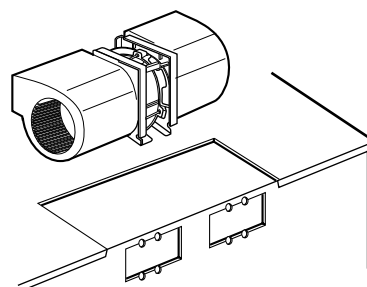

Figure 18
- (1) When mounting the door assembly to the oven assembly, be sure to adjust the door assembly parallel to the chassis. Also adjust so the door has no play between the inner door surface and oven frame assembly. If the door assembly is not mounted properly, microwaves may leak from the clearance between the door and the oven.
- (3) Carefully pull the ventilation motor ASS'Y out of the microwave oven. (See Figure 18)